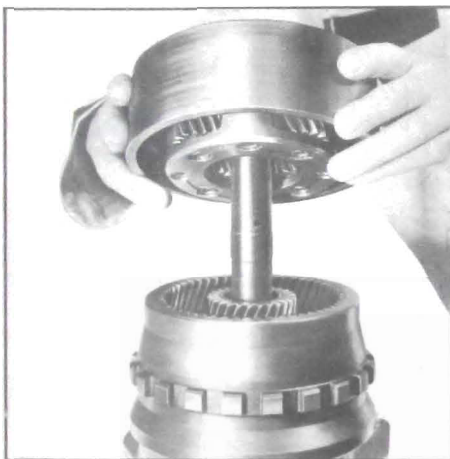

Figure 5-681
14. Install the reaction carrier. See Figure 5-681.